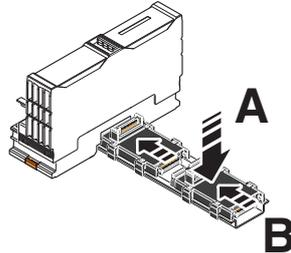

Fig. 6-9 Connecting bus base modules with each other and with the bus coupler
- Place all bus base modules required for the station on the DIN rail (Fig. 6-9, A). Observe the proper orientation of the bus base modules. When mounting on horizontal DIN rails on the wall, the logo must be readable and the laser-engraved arrow should point towards the bus coupler.
- Push the bus base modules into the connection of the bus coupler or the previous bus base module (Fig. 6-9, B).